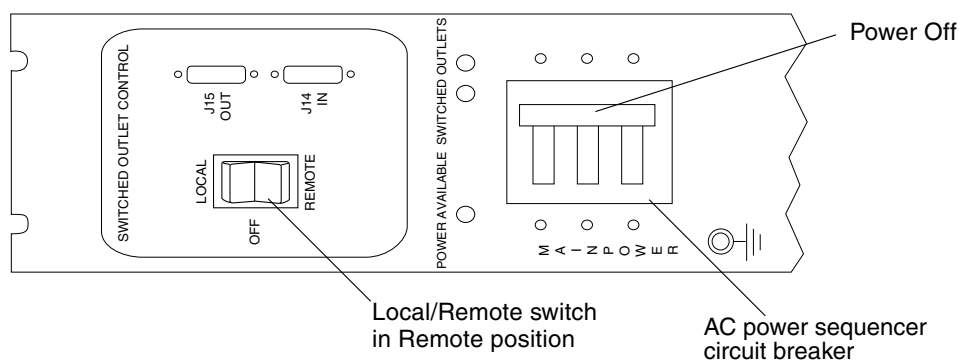

FIGURE B-12 AC Power Sequencer Control Panel: Power Off
7. To remove the main power from the system, at the bottom front and bottom back of the base cabinet, press both AC power sequencer circuit breakers up to the Power Off position (FIGURE B-12).